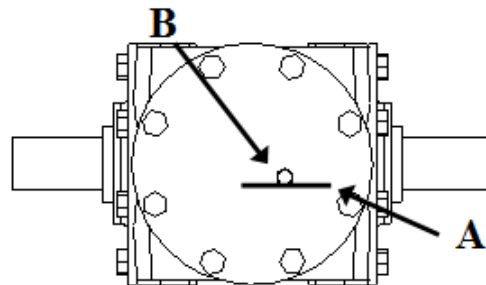

Figure 92: Gearbox Oil Level
Gearbox oil levels should be checked routinely and filled to line (A) shown in Figure 92.